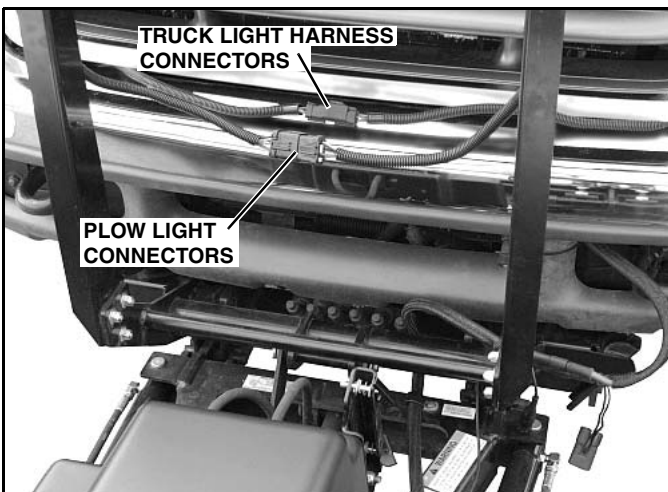

Figure 1-9
3. To prevent corrosion on the contacts, plug the male and female connectors on the plow together (See Figure 1-9).
4. To make the truck lights operable, plug the male and female connectors on the truck light harness together (See Figure 1-9).